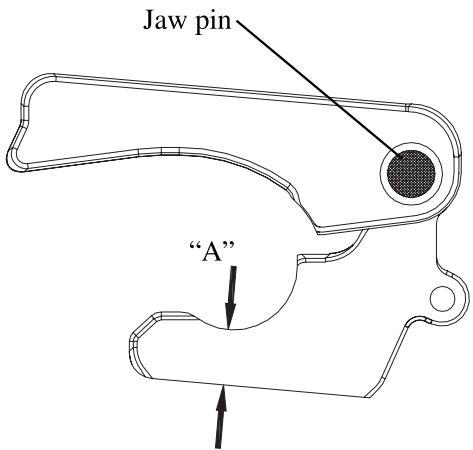

Figure 12 - Location of the Jaw pin
- Check the fifth wheel for wear. If dimension "A" (see Figure 12) is less than 20.25mm a replacement jaw kit is required.
The jaw pin (see Figure 12) is only a pivot pin and is designed to be smaller than the hole in the jaw. This clearance enables the jaw to fully contact the kingpin and lockbar at all times.
If the jaw is undersized (dimension A in Figure 12) is less than 20.25mm) a new jaw kit is required.